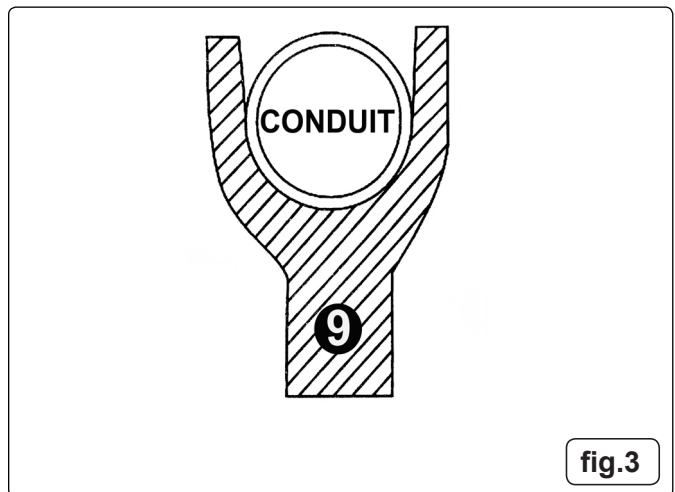

fig.3
- 5.1.1. Pass the conduit through the gap between the stop piece (5) and the former (9) and bed it into the former (fig.3).
**Note! The formers are produced to the exact depth and diameter of the tube (fig.3) to facilitate bending to given measurements.**